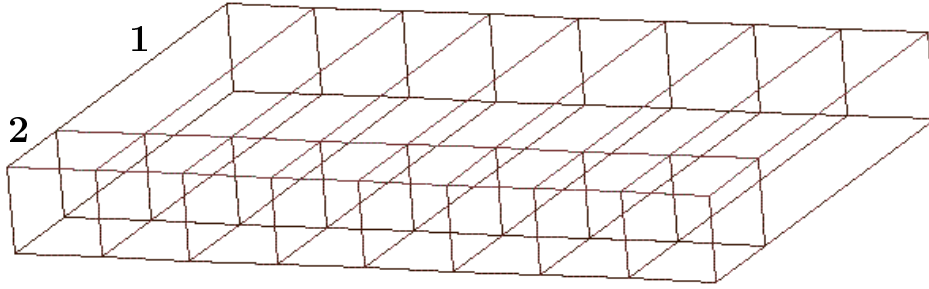

Figure 3: Hcal Half-Module with installed Working Parts and Reinforces. 1 – Working Part, 2 – Reinforce.
“lvHcalInnHalfModule (lvHcalInnMidlHalfModule)”, “lvHcalOutHalfModule” *logical volume* contains from 8(7) corresponding Half-SubModule’s Working Parts and Reinforces (Figure 3, 4).